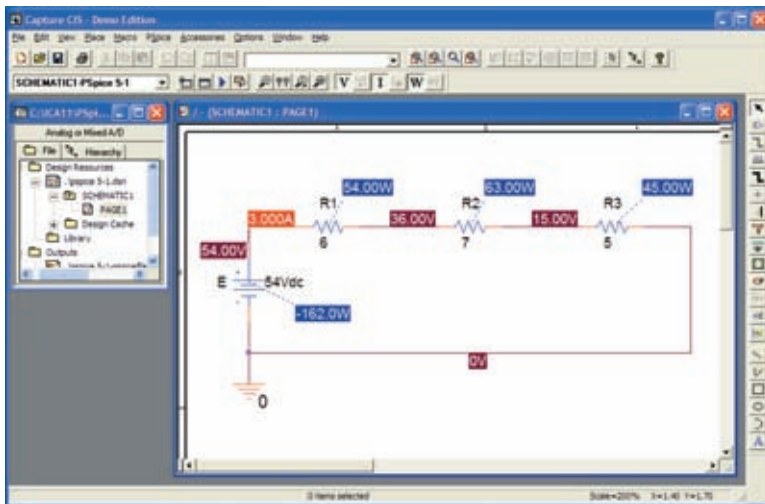

FIG. 5.83
**Analog or Mixed A/D** is already selected, and **PSpice** appears as the **Location**. Click **OK**, and the **Create PSpice Project** dialog box appears. Select **Create a blank project**, click **OK**, and the working windows appear. Grab the left edge of the **SCHEMATIC1:PAGE1** window to move it to the right so that you can see both screens. Clicking the + sign in the **Project Manager** window allows you to set the sequence down to **PAGE1**. You can change the name of the **SCHEMATIC1** by selecting it and right-clicking. Choose **Rename** from the list. Enter **PSpice 5-1** in the **Rename Schematic** dialog box. In Fig. 5.83 it was left as **SCHEMATIC1**.
This next step is important. If the toolbar on the right does not appear, left-click anywhere on the **SCHEMATIC1:PAGE1** screen. To start building the circuit, select **Place a part** key (the second one down) to open the **Place Part** dialog box. Note that the **SOURCE** library is already in place in the **Library** list (from the efforts of Chapter 4). Selecting **SOURCE** results in the list of sources under **Part List**, and **VDC** can be selected. Click **OK**, and the cursor can put it in place with a single left click. Right-click and select **End Mode** to end the process since the network has only one source. One more left click, and the source is in place. Select the **Place a Part** key again, followed by **ANALOG** library to find the resistor **R**. Once the resistor has been selected, click **OK** to place it next to the cursor on the screen. This time, since three resistors need to be placed, there is no need to go to **End Mode** between depositing each. Simply click one in place, then the next, and finally the third. Then right-click to end the process with **End Mode**. Finally, add a **GND** by selecting the appropriate key from the right toolbar and selecting **0/SOURCE** in the **Place Ground** dialog box. Click **OK**, and place the ground as shown in Fig. 5.83.
Before simulation, select the **V**, **I**, and **W** in the toolbar at the top of the window to ensure that the voltages, currents, and power are displayed on the screen. To simulate, select the **New Simulation Profile** key (which appears as a data sheet on the second toolbar down with a star in the top left corner) to obtain the **New Simulation** dialog box. Enter **Bias Point** for a dc solution under **Name**, and hit the **Create** key. A **Simulation Settings-Bias Point** dialog box appears in which **Analysis** is selected and **Bias Point** is found under the **Analysis type** heading. Click **OK**, and then select the **Run PSpice** key (the blue arrow) to initiate the simulation. Exit the resulting screen. The resulting display (Fig. 5.83) shows the current is 3 A for the circuit with 15 V across  $R_3$ , and 36 V from a point between  $R_1$  and  $R_2$  to ground. The voltage across  $R_2$  is  $36\text{ V} - 15\text{ V} = 21\text{ V}$ , and the voltage across  $R_1$  is  $54\text{ V} - 36\text{ V} = 18\text{ V}$ . The power supplied or dissipated by each element is also listed.